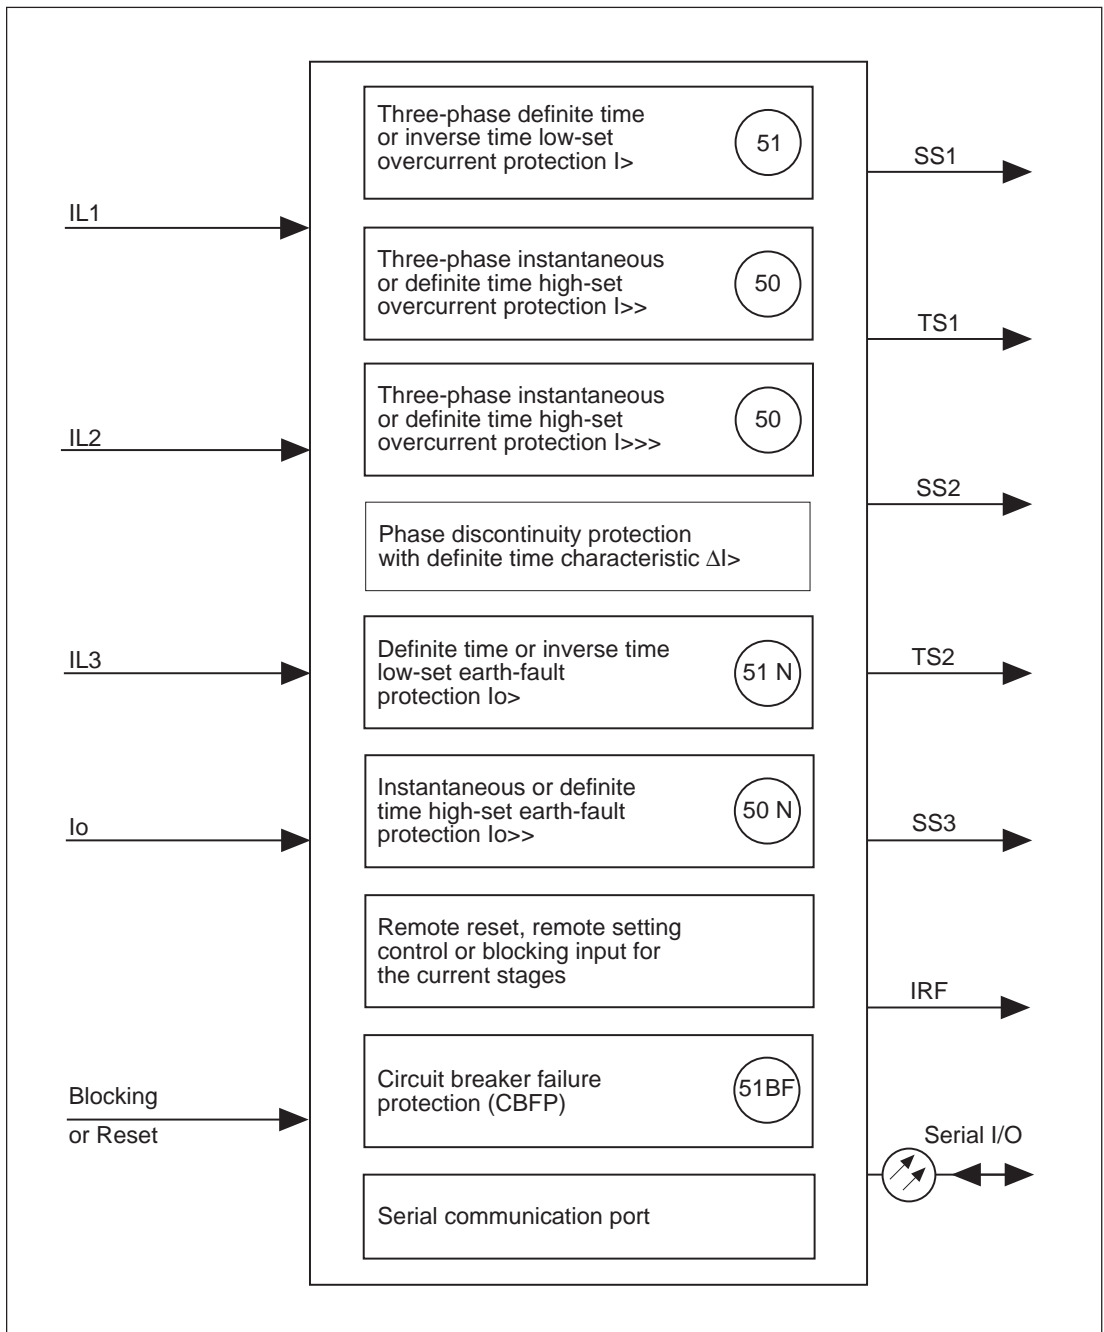

Fig. 1. Protection functions of the combined overcurrent and earth-fault relay type SPAJ 144 C
E) Once the internal self-supervision system has detected a permanent relay fault the red IRF indicator is lit and the output relay of the self-supervision system operates. Further, in most fault situations, an autodiagnostic fault code is shown in the display. The fault code is composed of a red figure 1 and a green code number which indicates the fault type. The code number should always be recorded for maintenance purposes.